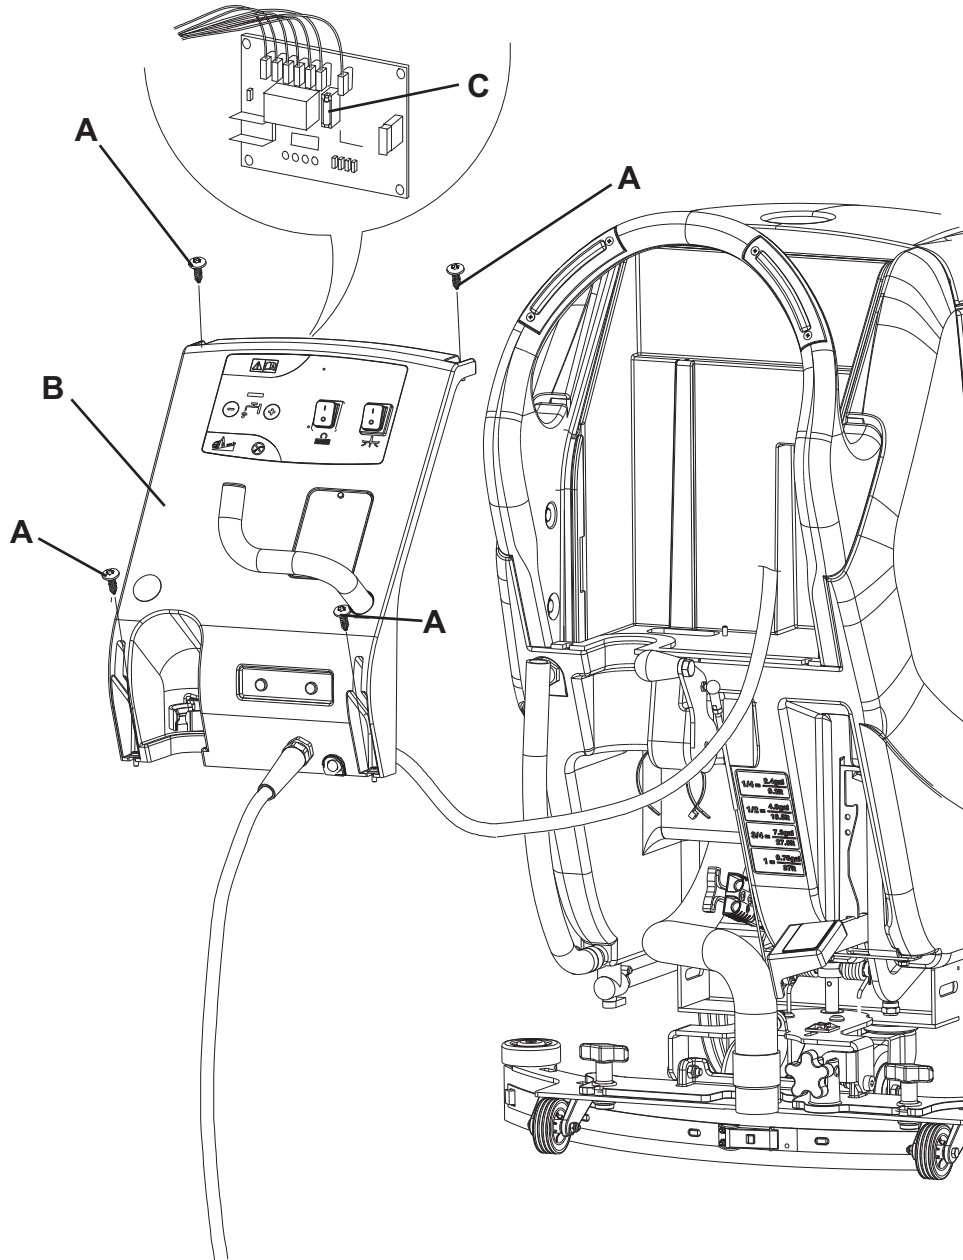

Figure 6
1. Disconnect the power supply cable (3) from the electrical mains but do not place it on the holder (4).
2. Move aside the recovery water drain hose (12).
3. Remove the power supply cable (3) from the holder (4).
4. Remove the screws (A, Fig. 6) and carefully move the panel (B).